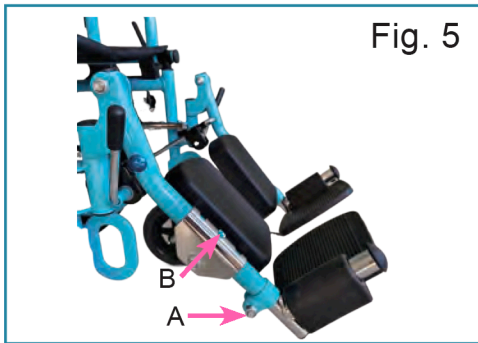

Fig. 5
Loosen screws tab (A), raise or lower foot plate to proper position for maximum support of thighs. Rotate the calf pad around pins (B) (Fig. 5) to adjust the calf pad position to ensure a comfortable support to user's leg. Foot plate shouldn't be lower than 2.5" from the ground to ensure clearance. Proper length is important so as not to cause pressure on user's thighs at the front of seat.